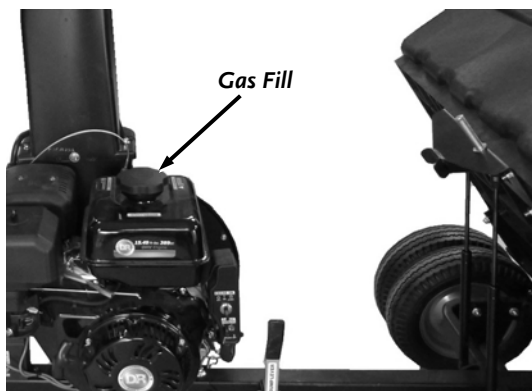

Figure 58
1. Fill the gas tank (**Figure 58**) to within 1-1/2 inches below top of fill neck (to allow for fuel expansion) with fresh, unleaded gas. See your Engine Owner's Manual for more information.